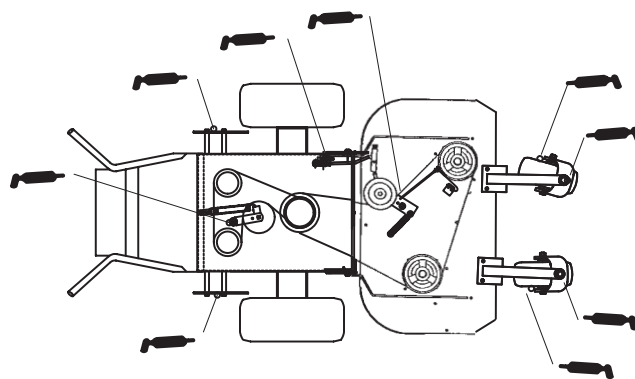

Figure 44
1. Lubricate the caster wheel bearings and front spindles every 8 operating hours (Fig. 44).
2. Lubricate the mower deck idler pivot, pump drive idler pivot and pump control every 40 operating hours (Fig. 44).
3. Lubricate the PTO engagement bellcrank every 100 operating hours (Fig. 44).